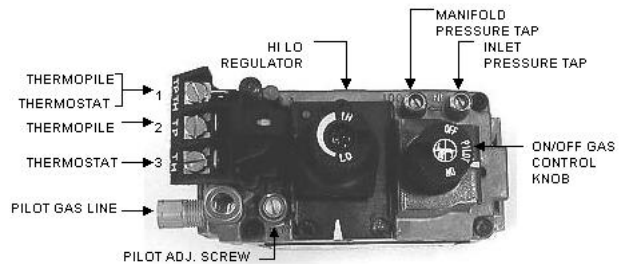

FIGURE 8: Gas Valve
5. Turn Gas Cock Dial Counterclockwise to "PILOT" position [See FIGURE 8].
12. To reduce heat output, turn Hi/Lo Knob counterclockwise to desired temperature [See FIGURE 8]. NEVER "over fire" by increasing BTUH above nameplate specifications. NEVER turn down pilot flame below the required 325 millivolts.
2. For complete shutdown turn Rocker Switch and Gas Cock Dial [FIGURE 8] to "OFF".